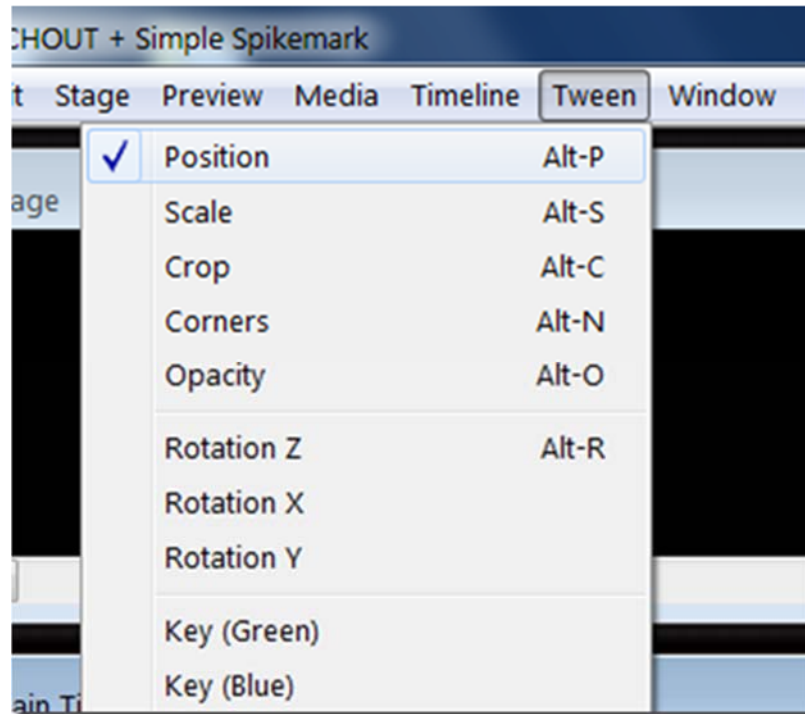

Figure 363
**Generic Input** value we will create a formula in the **Main Timeline**. Select the image layer in the **Main Timeline**, and then from the **Tween** menu select **Position** (Figure 363).